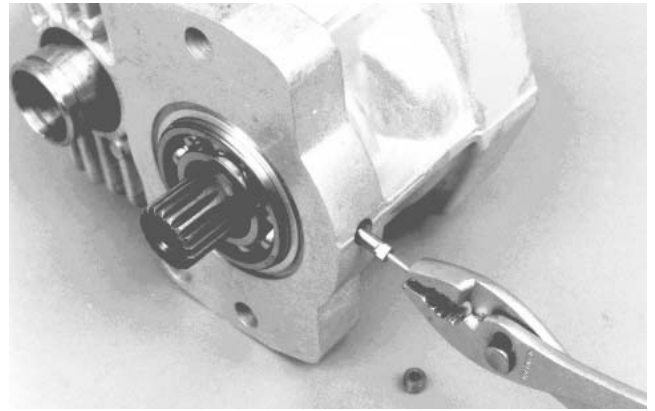

Figure 47
11. Use an 8-32 machine screw to remove motor shaft bearing retaining pin from housing (Fig. 47).